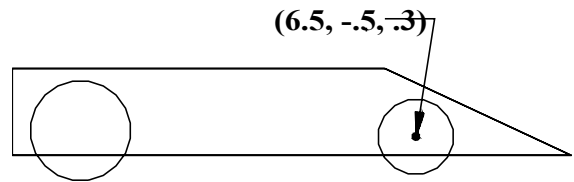

FIG. 5
Step 12. In the Side View, move cursor to coordinates **(6.5, -.5, .3)** and click for the center of the wheel, **Fig. 5**.